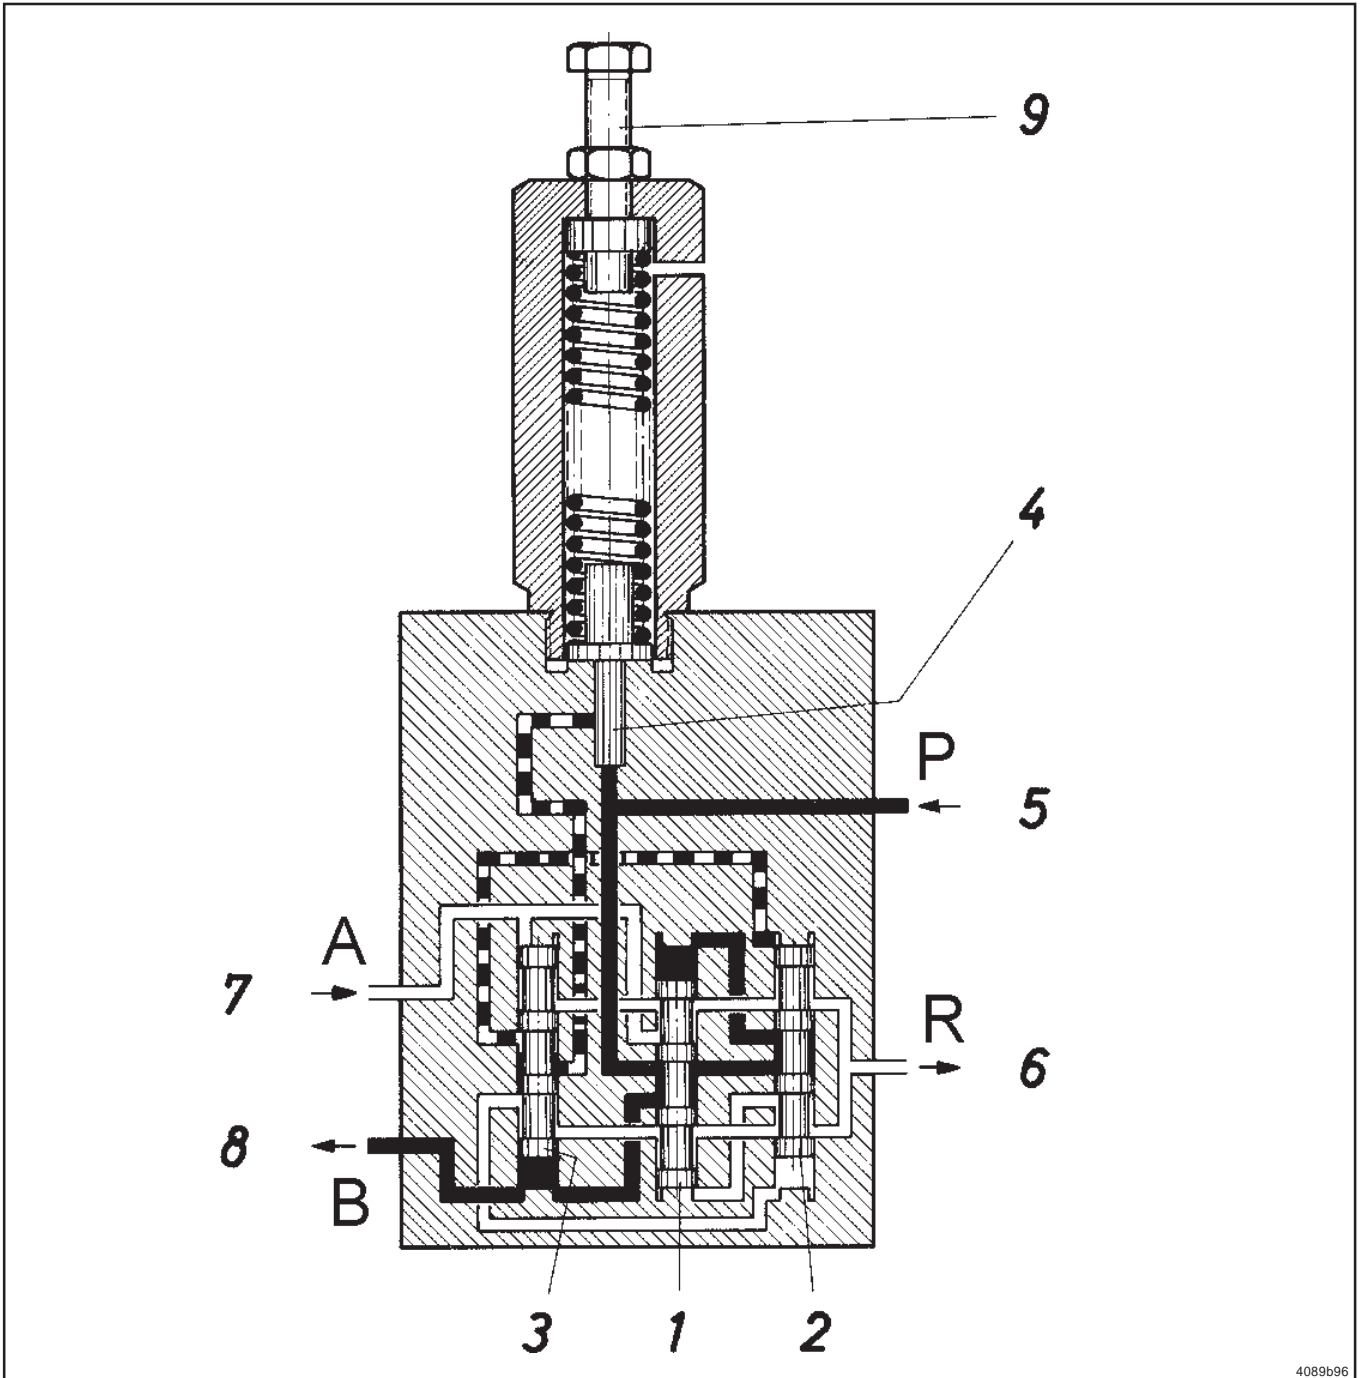

Fig.2: operation of change-over valve DU1
The pressure rising in the main line (8) pushes up the change-over piston (3)(Fig. 2).